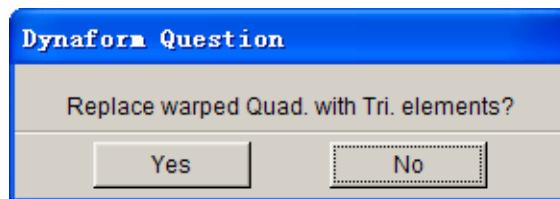

Figure 2.14: Dynaform question dialog box
3. Select **Ok** button to initiate warpage angle inspection. If warpage angle of elements exceed the criteria, eta/DYNAFORM will highlight these elements and pop up the dialog box shown in Figure 2.14. The number of failed elements is also printed in the message prompt window.